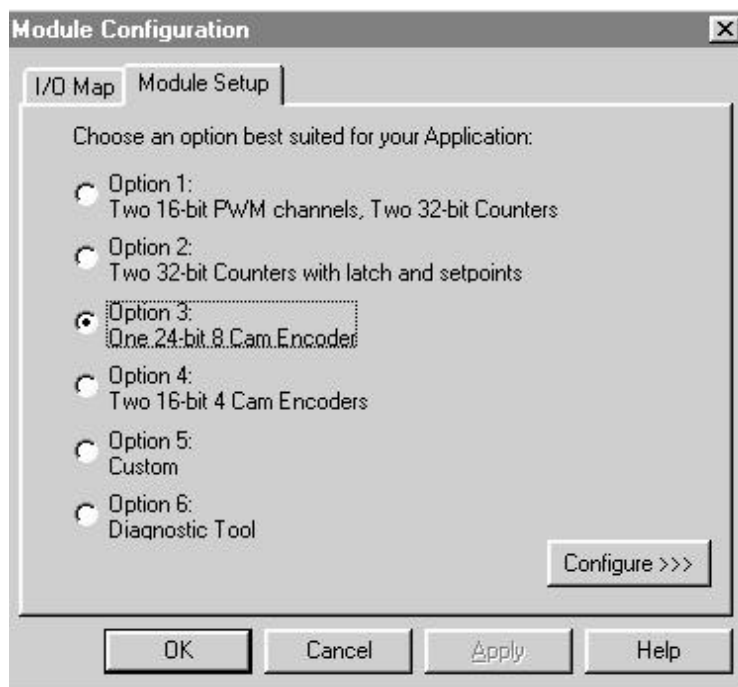

Figure 5.10 – Option 3 Configuration Screen
1. After performing the initial configuration procedures described in Chapter Two, the following screen appears (Figure 5.10): Select Option 3 and press **Configure**.